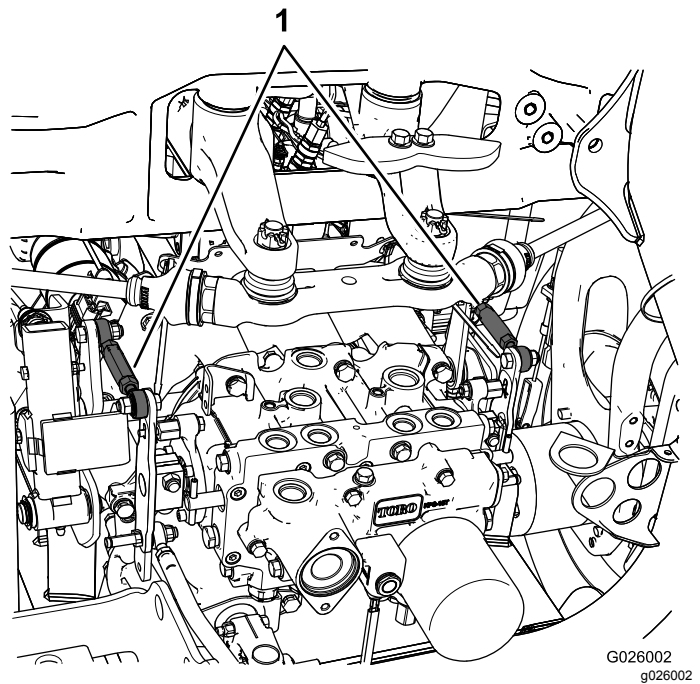

Figure 65
- If the left rear tire is rotating, loosen the jam nuts on the left side transmission control rod (Figure 65).